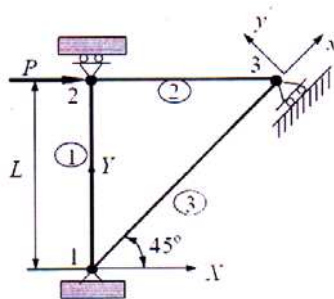

Figure 1
b) For the plane truss as shown in figure 1, $P=1000\text{kN}$, $L=1\text{m}$, $E=210\text{ GPa}$, $A=6.0 \times 10^{-4}\text{ m}^2$ for element 1 and 2, $A=6\sqrt{2} \times 10^{-4}\text{ m}^2$ for element 3. Determine displacement and reaction solutions. [10]